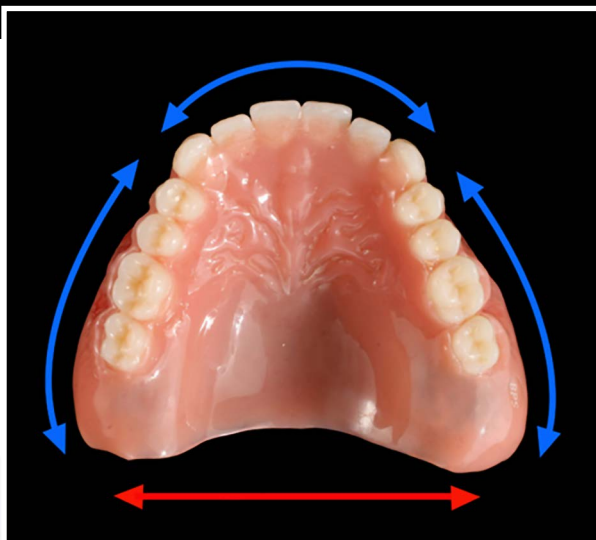

Figure 1: (Above)
1. The **internal/external double closure** is created as the denture border is sandwiched between the labio-buccal and residual ridge mucosa, and the denture’s internal surface contacts the residual ridge mucosa, see blue arrows (**Fig. 1**). This double action creates a strong suction seal.
2. The posterior denture border contacting the palate, referred to as the **close-contact closure**, tends to create a weak seal, see the red arrow (**Fig. 1**). If a dislodging force greater than the saliva’s surface tension is applied to the denture, air leaks between the denture and palate, and the seal easily breaks. The close-contact closure seal can be reinforced by taking a functional impression of the posterior palatal border area, seeing (**Fig. 2**), or carving a post dam on the cast.